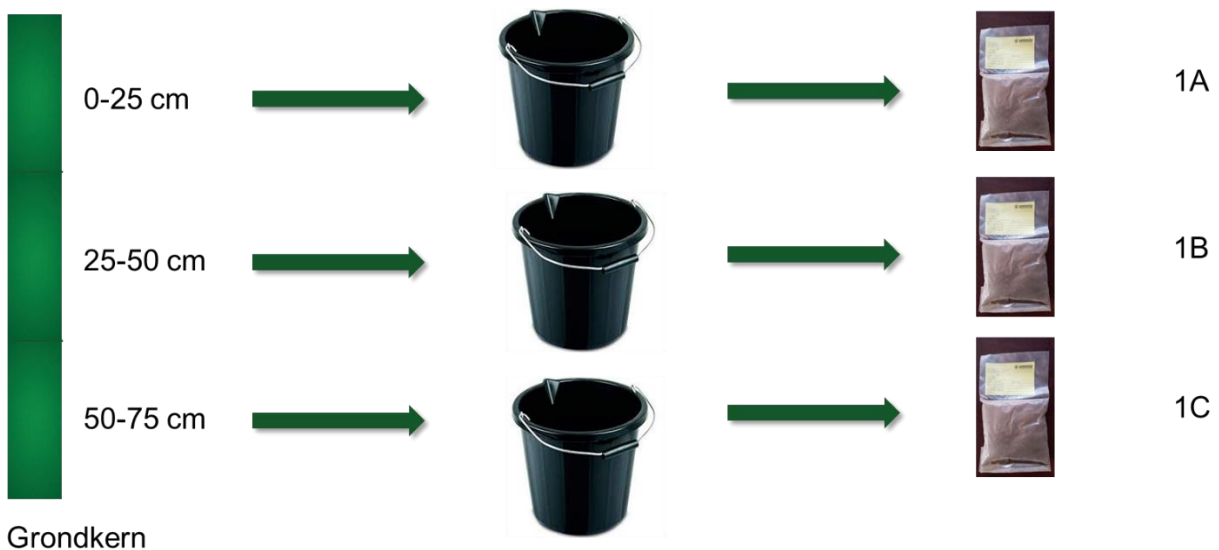

Figure 1. Schematic representation of how soil samples are taken at different depths in the field.
- Mix sub samples of the top soil (0-25 cm) and subsoil (25-75 cm) thoroughly in a clean mixing bucket(Figure 1).